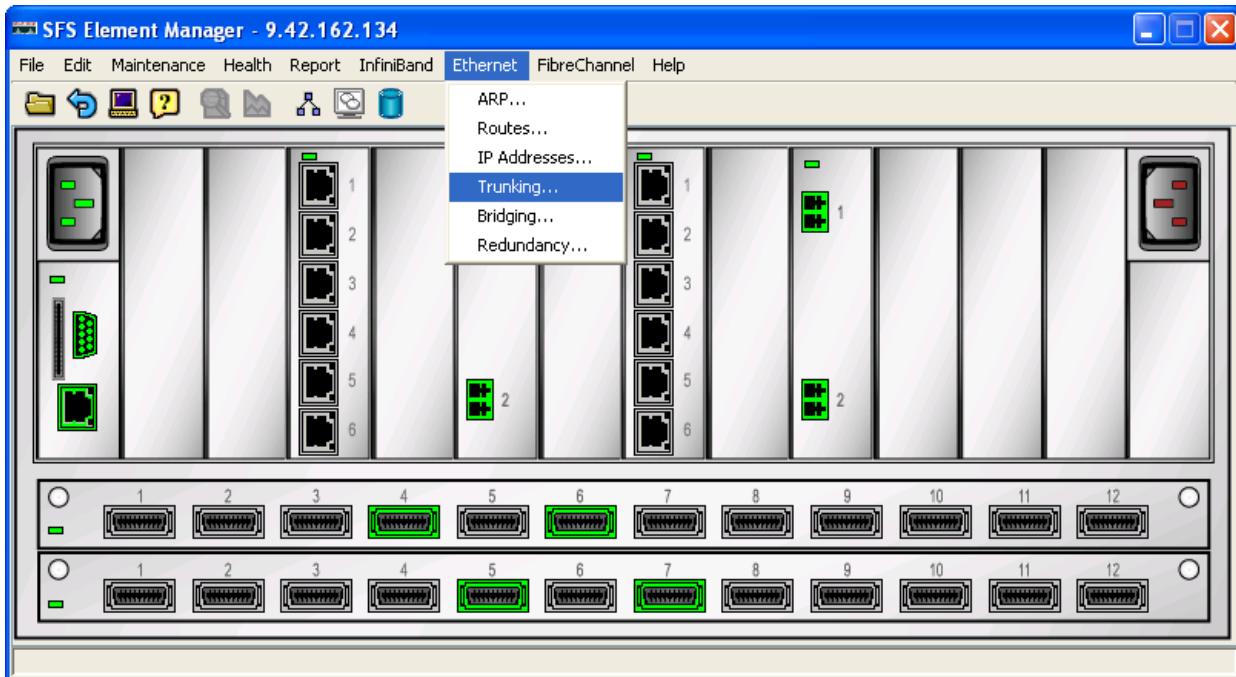

Figure 7-15 Begin the process of creating a trunk group
3. Using the Element Manager, click **Ethernet** → **Trunking** as shown in Figure 7-15.